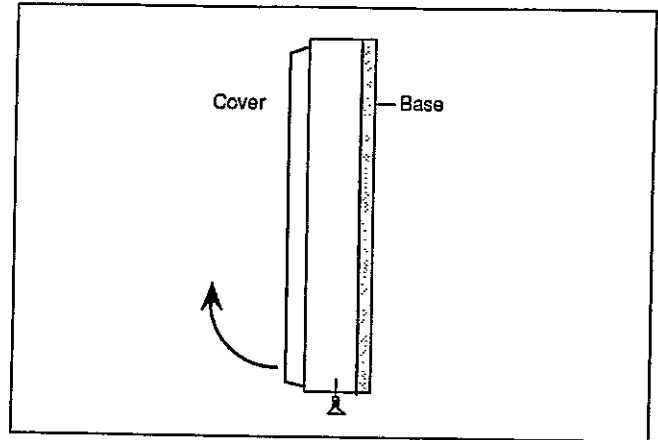

Figure 1 - Side View
1. Remove the cover by unscrewing the small phillips head screw on the bottom of the unit (see Figure 1). Gently pull the cover away from the base by rotating the cover up.